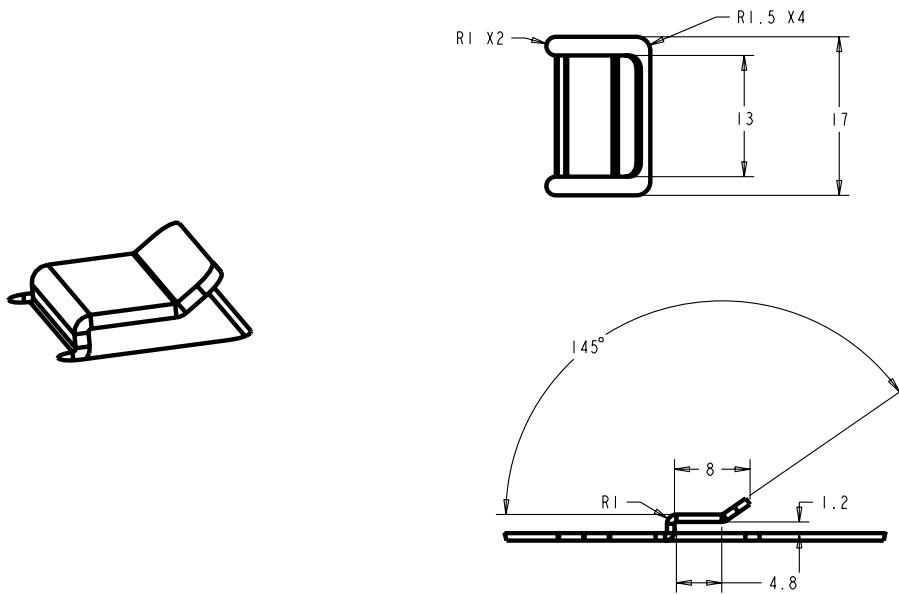

Figure 13. Suggested Mounting Tab (chassis feature)
- EITHER a mounting bracket to interface with the forward mounting hole on the power supply OR a mounting tab as shown in Figure 13 to interface with the mounting slot on the bottom of the power supply